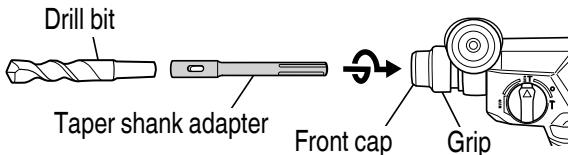
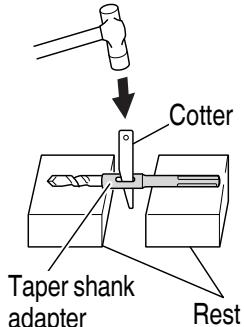

Fig. 31
Fig. 32
- (1) Mount the taper shank adapter to the rotary hammer. (Fig. 31)
- (2) Mount the drill bit (taper shank) to the taper shank adapter. (Fig. 31)
- (3) Turn the switch ON, and drill a hole in prescribed depth.
- (4) To remove the drill bit (taper shank), insert the cotter into the slot of the taper shank adapter and strike the head of the cotter with a hammer supporting on the rests. (Fig. 32)